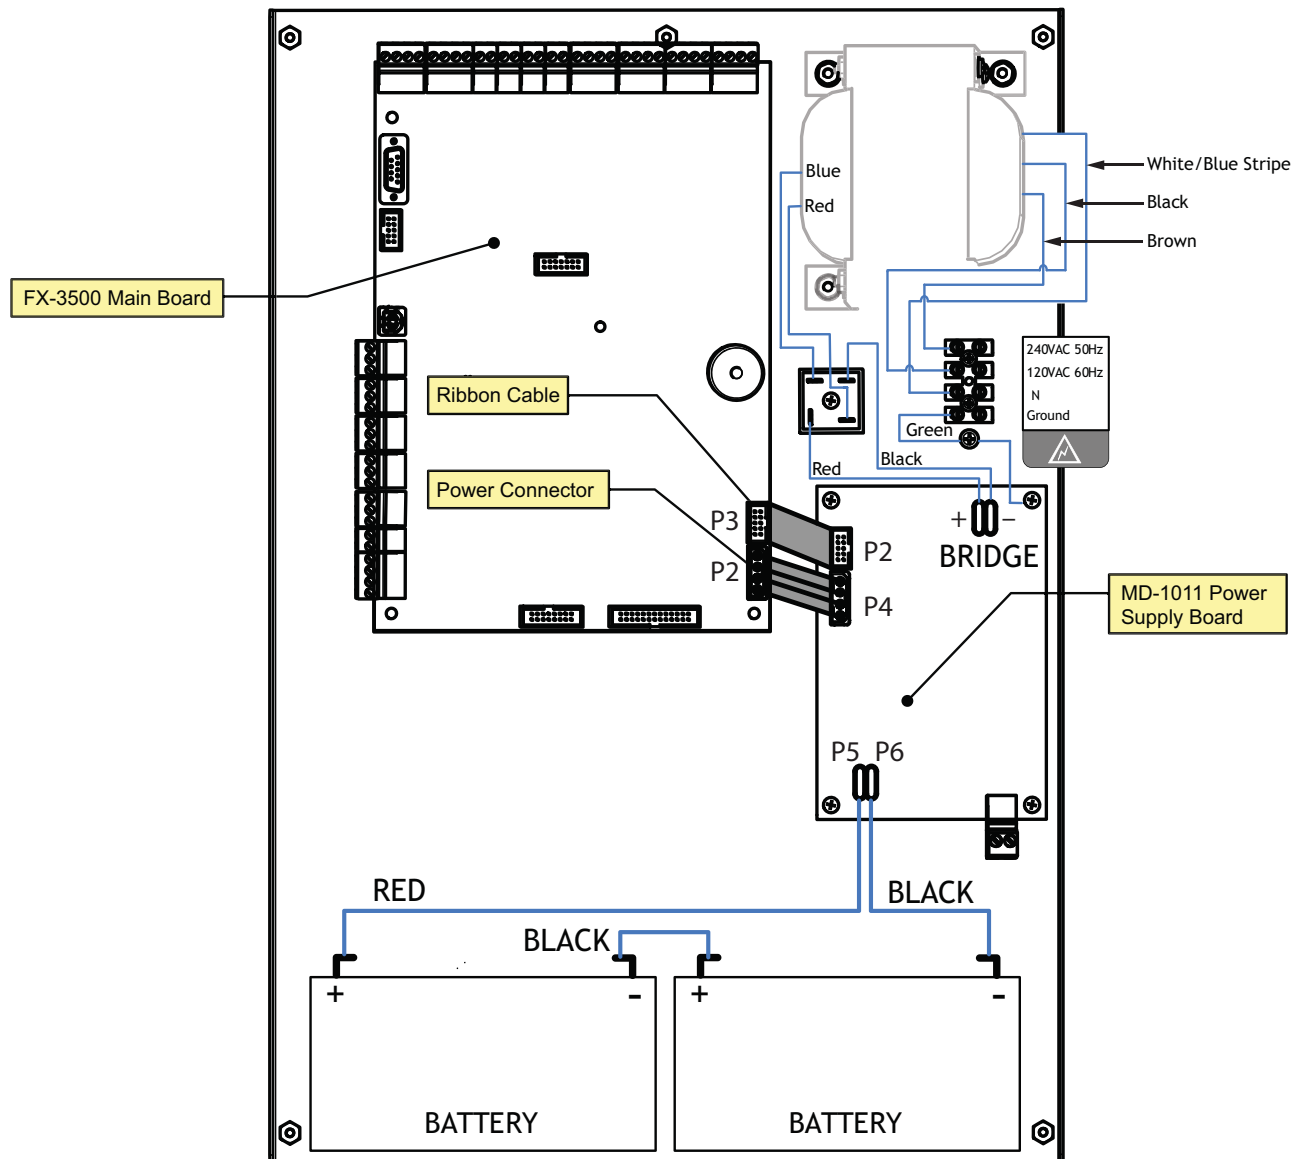

Figure 23 Main Power Supply Wiring and Connections
Wire the Power Supply as shown in Figure 23 and adhere to the following:
- Wire the AC power to the AC wiring terminals as shown in Figure 23 using the proper wire gauge with 600 volt insulation and proper over current circuit protection that complies with local codes.